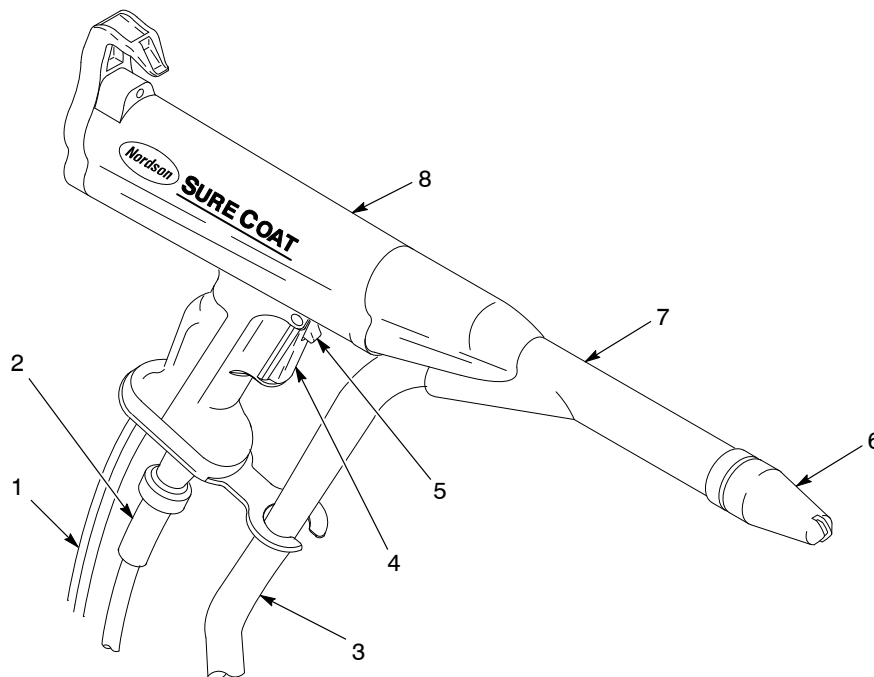

Figure 2-1 Sure Coat Manual Powder Spray Gun
See Figure 2-1. The Sure Coat manual powder spray gun has a voltage multiplier housed in the gun body (8). The multiplier converts low-voltage dc power to the high electrostatic voltage needed for powder coating. The voltage generates a high-strength electrostatic field between an electrode inside the nozzle (6) and the grounded workpiece in front of the spray gun. The electrostatic field produces a corona discharge around the electrode.
See Figure 2-1. When the operator presses the purge button (5), purge air at system pressure flows through the powder path to blow out any powder buildup. Purge air flows as long as the operator presses the purge button. Purging does not override the trigger function and stop powder flow.